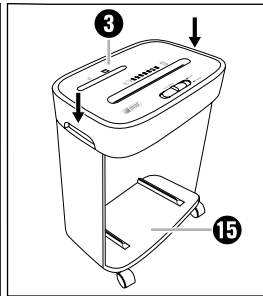

Fig. 2
- ◆ Press the cutter attachment **3** firmly downwards until you hear it lock into place on the appliance base **15** (see fig. 2).